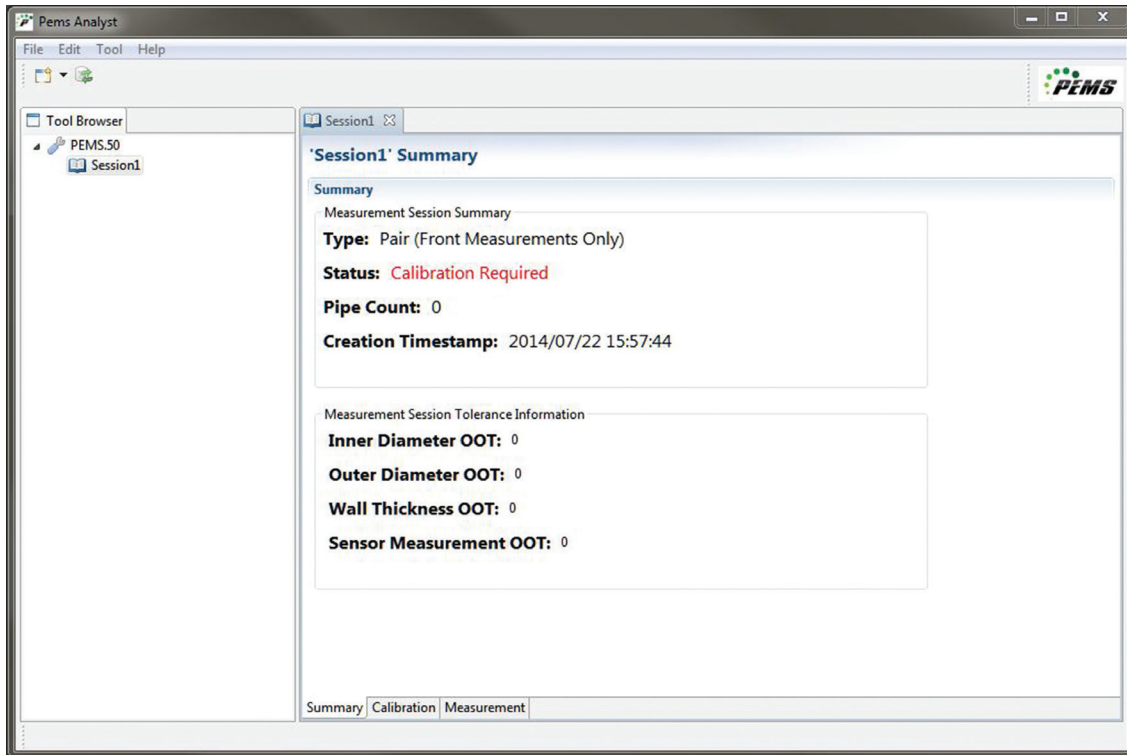

Figure 2-16 - Measurement Session Summary
1. In the Tool Browser, open (double-click) the Measurement Session you created. This opens the Measurement Session Summary. See fig. 2-16